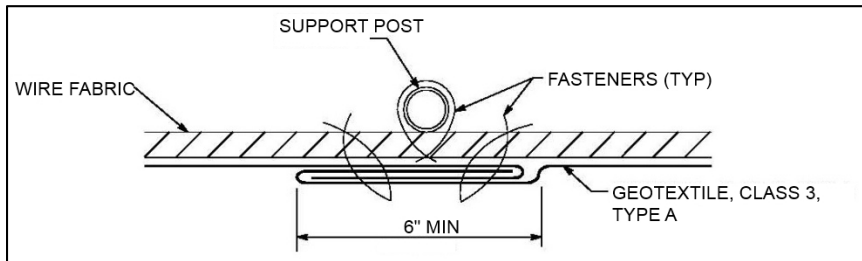

Figure 21: Geotextile Overlap Detail
- Stretch and secure geotextile to the wire fabric fence on the upslope side of the wire fabric with wire fasteners, staples, or preformed clips. It should extend a maximum of 33" above the ground surface (**Figure 21**).
- Space geotextile to wire fabric fasteners at 24” maximum center to center as shown in **Figure 21**.